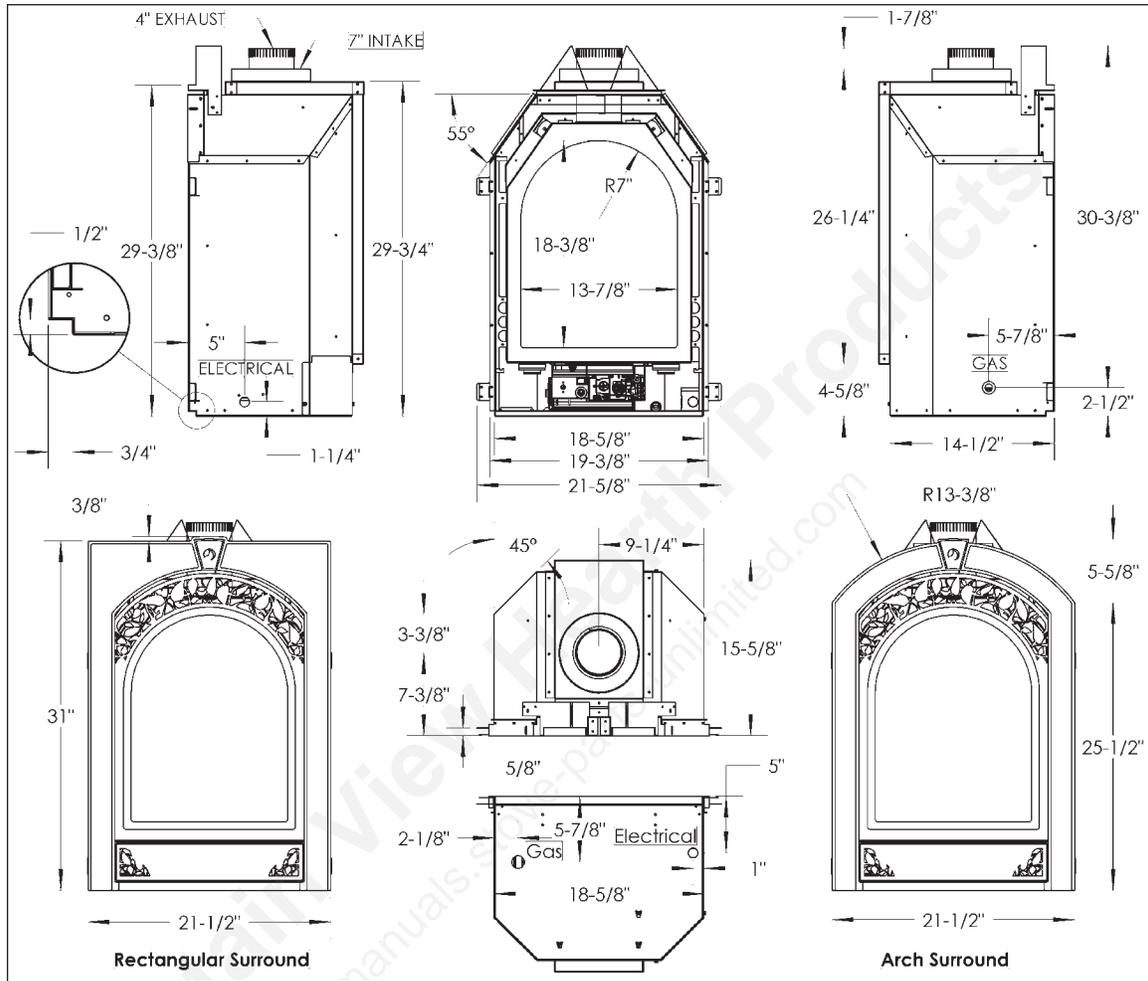

Figure 1 - An overview of the dimensions involved.
**NOTE:** Additional access to the gas valve and electrical conjunction box is provided. These cutouts are located at the bottom of the unit. Please refer Figure 1 for the dimensional location.